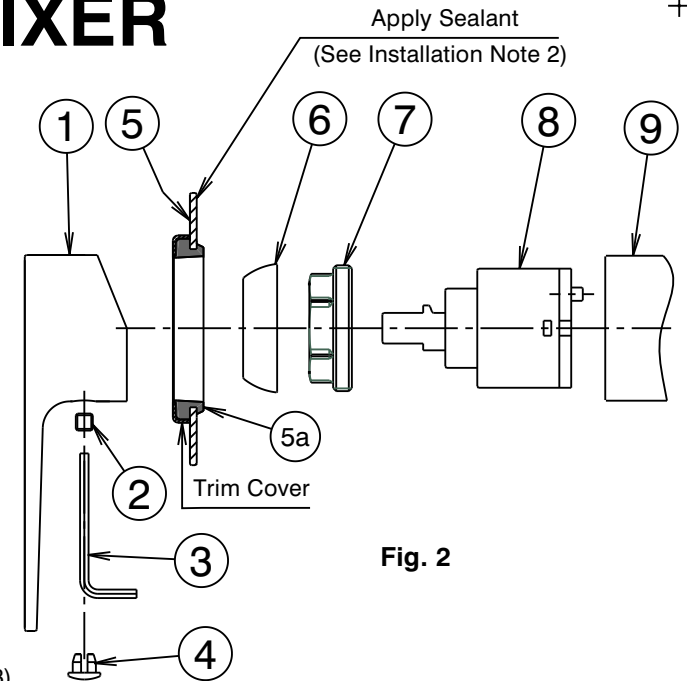

Fig. 2
- * Mixer body (9) must be installed square to wall/tile face, to ensure cover plate (5) sits flush.
- 2) Determine the orientation of cover plate (5) by ensuring the **Caroma** marking on the plate is positioned horizontally at the bottom. Apply a suitable clear sealant to the back edge of the cover plate (5), to prevent water from entering the wall cavity, leaving an unsealed section at the bottom for drainage. (See Fig. 2).
Replacing Cartridge (Fig. 2)